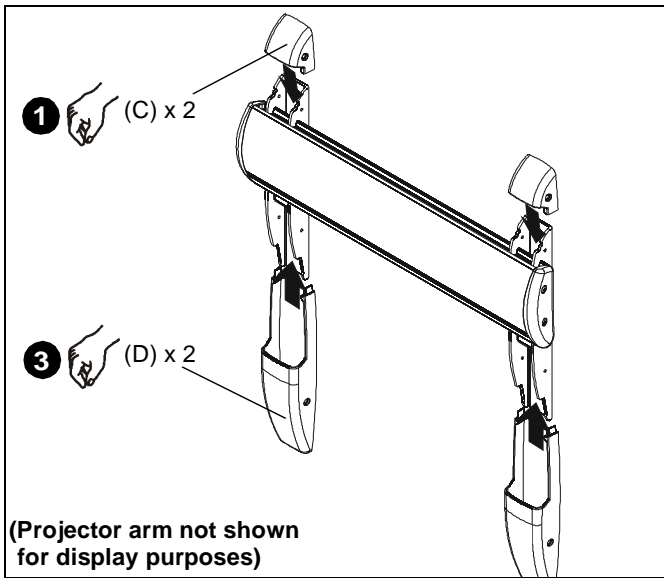

Figure 61
**NOTE:** If security screws are going to be used, use the security screws (V) to install wall bracket covers. See **Security Screw Installation** section for details.
1. Place wall bracket top caps (C) over top of each wall bracket arm. (See Figure 61)
3. Place wall bracket bottom caps (D) over bottom of each wall bracket arm. (See Figure 61)